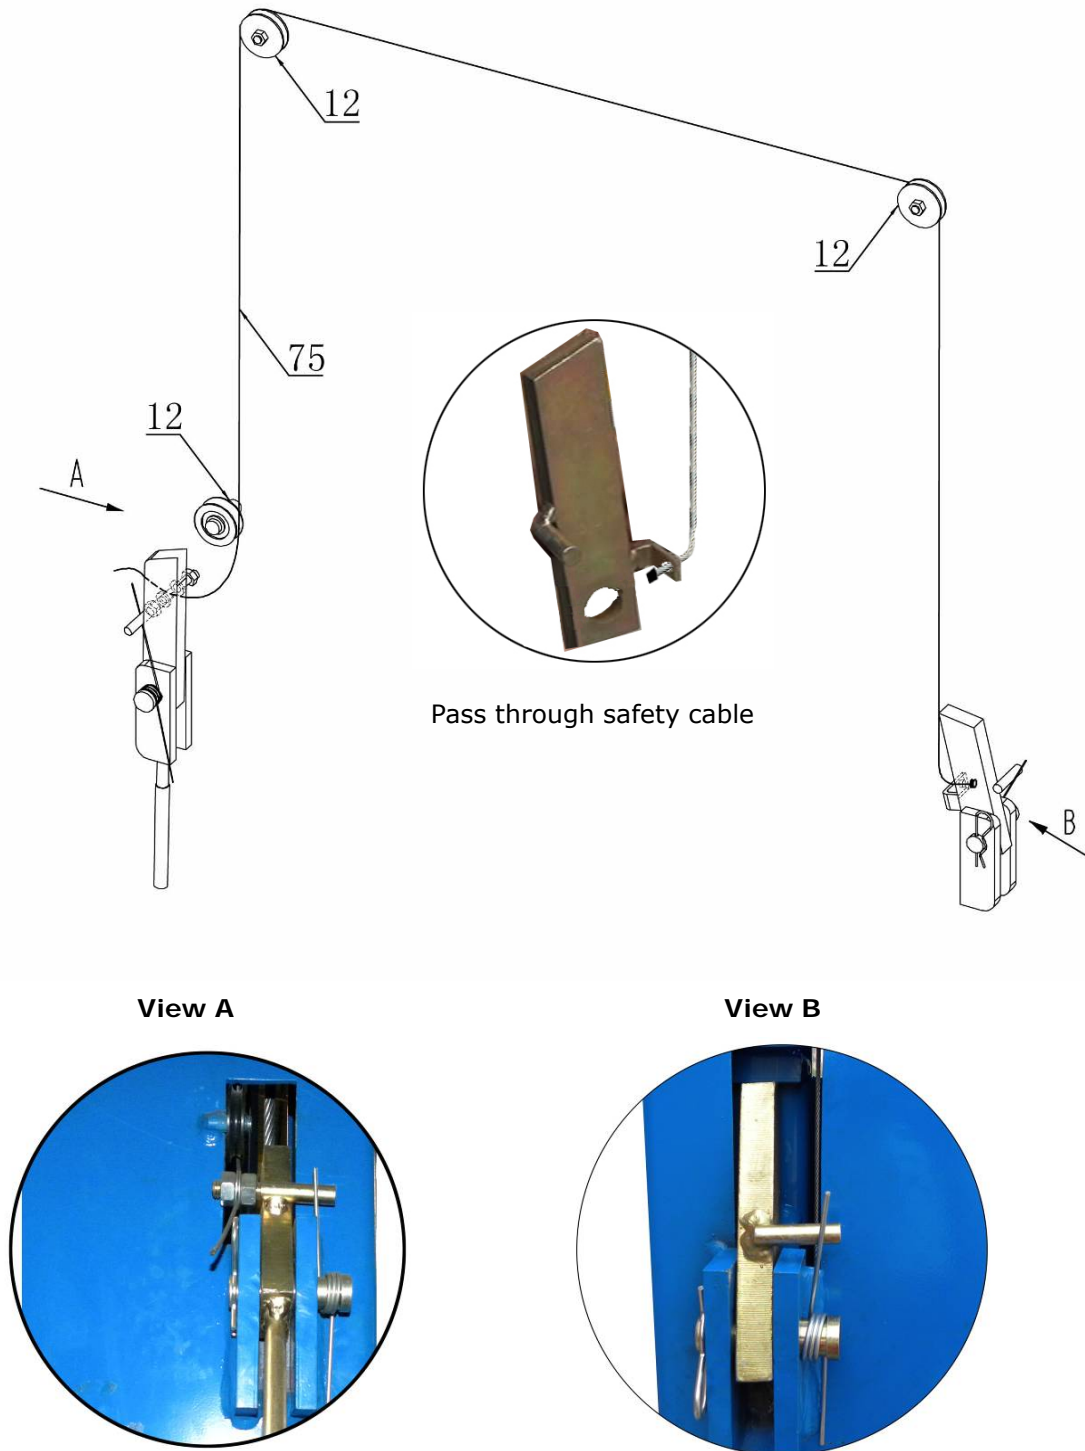

Fig. 23
L. Install safety cable (See Fig. 23).